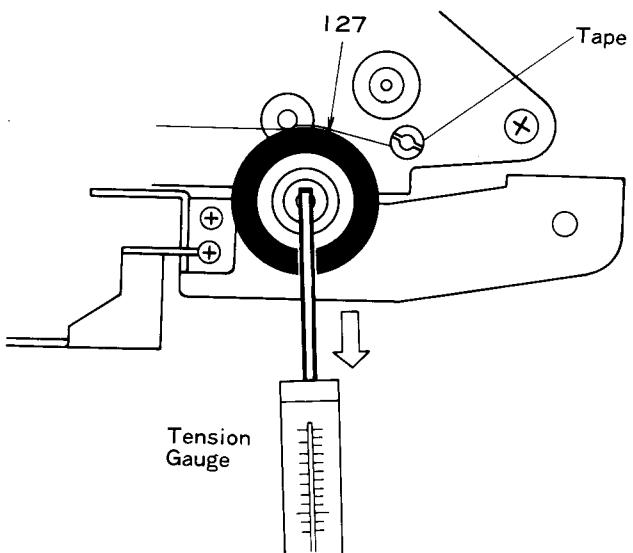

Fig. 9
*** PINCH ROLLER PRESSURE ADJUSTMENT (Refer to Fig. 9)**
- (1) Set the tape loaded on a 7-inch reel.
- (2) Supply power, and shift the function selector knob (005) in playback position and then run the tape.
- (3) When the tape is taken up approximately by half, hook a tension gauge on the pinch roller and confirm the value shown when the tape stops.
- (4) If the set is normal, the pressure of pinch roller (127) is 1.4 ± 0.2 kg.
- (5) If the pressure is out of this range, adjust it by pinch roller lever spring (107).
- (6) At the time, keep the tape selector knob (008) in 19cm/sec position.